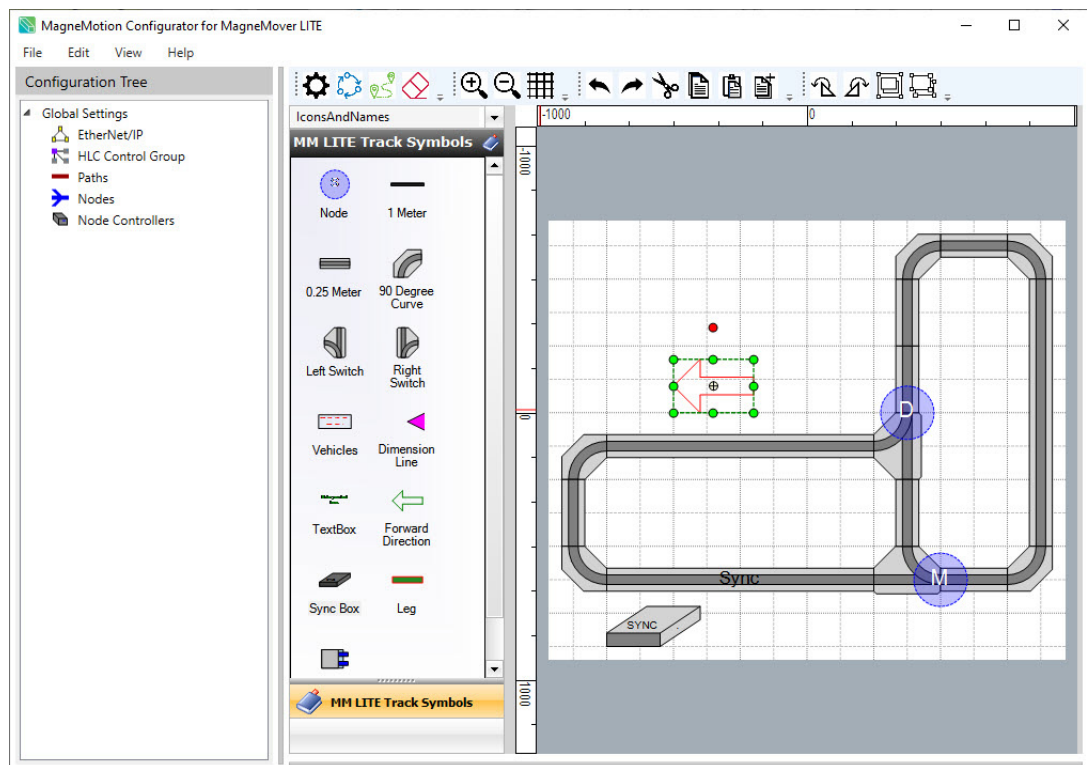

Figure 3-20: Identify Direction of Forward Motion
1. Drag the **Forward Direction** symbol onto the **Layout Area**, position it next to a section of motors in the track layout, and rotate it by dragging the red handle, see Figure 3-20.